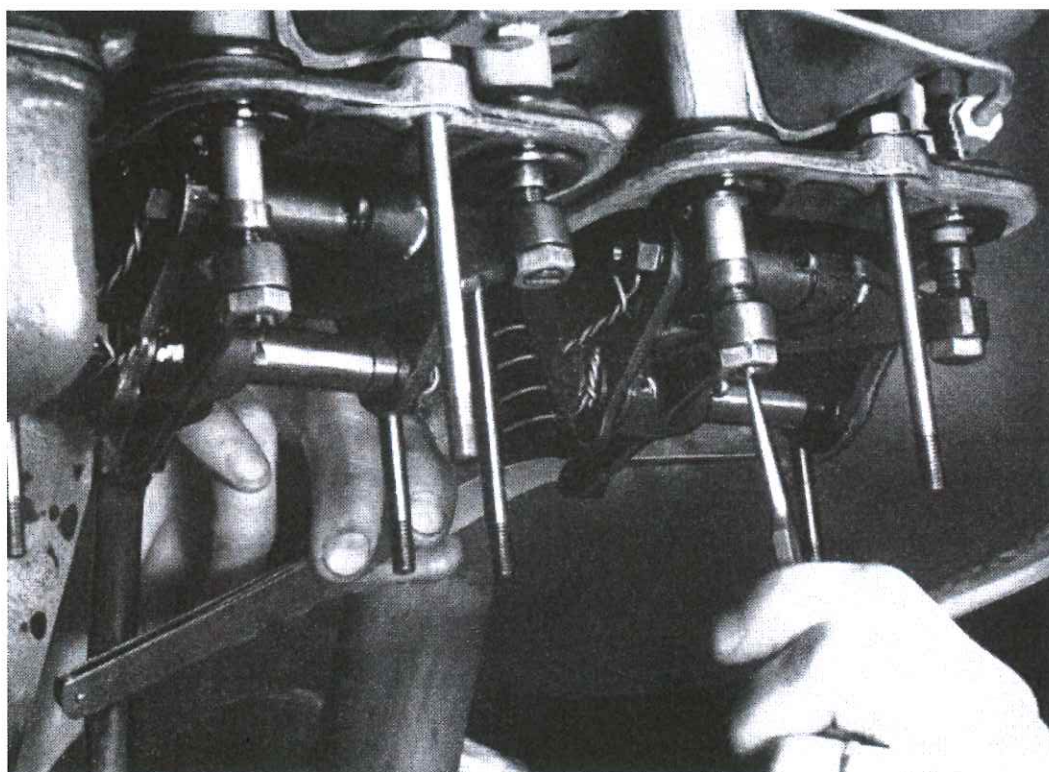

Figure 31.—Adjust the valve clearances when the engine is cold.
12. Reset valve clearances to .004 in. if necessary (see Fig. 31).